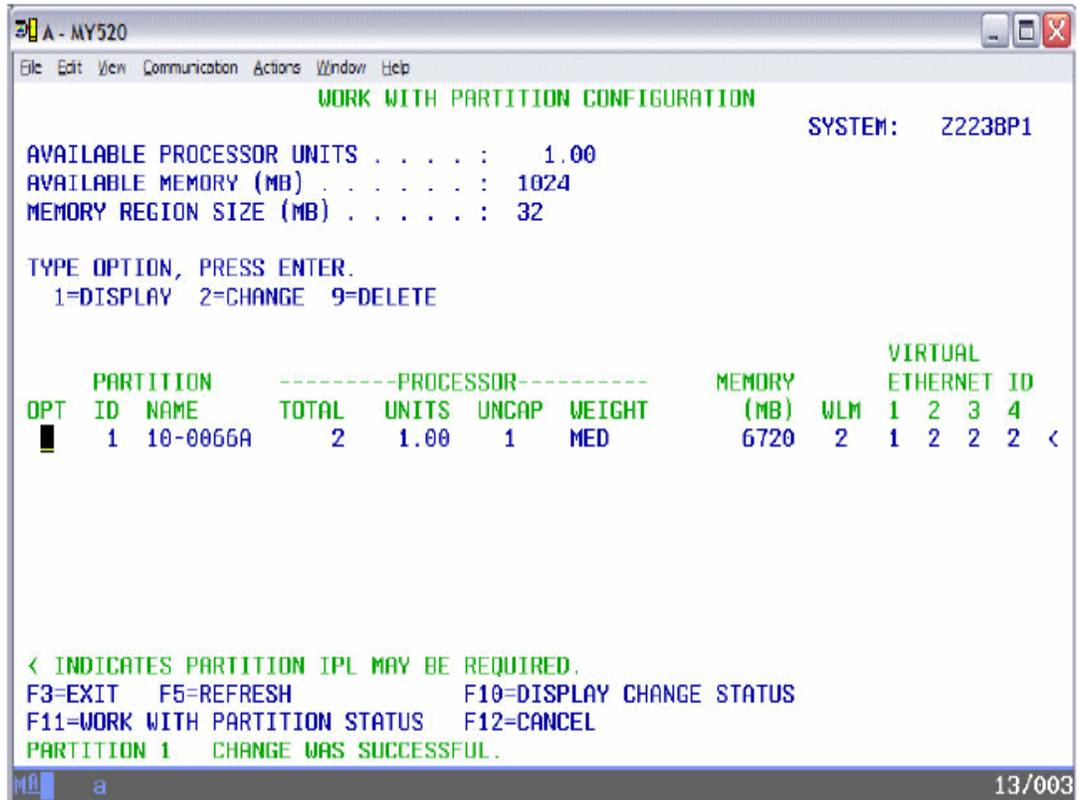

Figure 13-12 Partition Change Successful
9. Press Enter again on the Confirm Changed Partition screen, which will complete the changes required on the i5/OS partition (Figure 13-12).
Notice that the changes made to i5/OS resources requires an IPL of the system, as indicated by the “<” in Figure 13-12. There is no need to perform this task at present, you can perform the IPL once you define all of the Linux partitions.